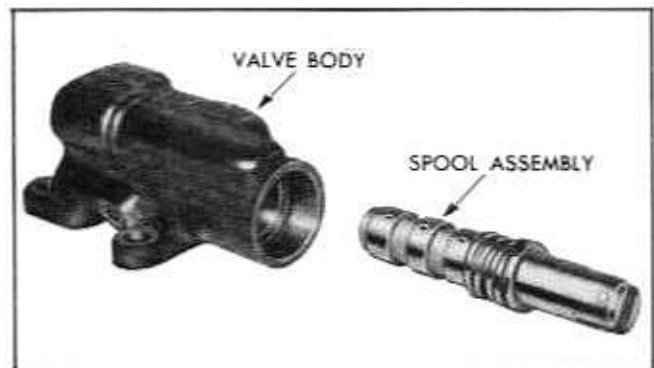

Fig. 9-29 Spool Assembly Removed
2. Slide spool assembly out of valve body (Fig. 9-29). Care should be taken to see that neither spool assembly or valve body are scratched or dropped. NOTE: Spool valve should not be disassembled since it may be distorted when loosening link.